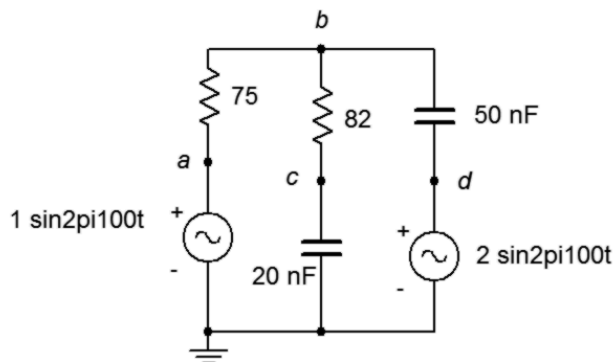

Figure 6.2
- Use mesh analysis to find the current through the $75 \text{ }\Omega$ resistor in the circuit of Figure 6.2.
- Given the circuit in Figure 6.2, write the mesh loop equations and determine v_c .
47. Use nodal analysis to find v_{bc} in the circuit of Figure 6.2.